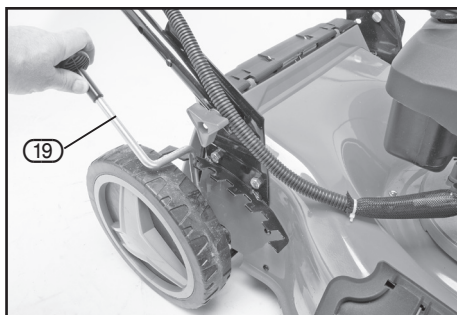

FIG. 16
8.9 SETTING THE CUTTING HEIGHT – FIG. 16